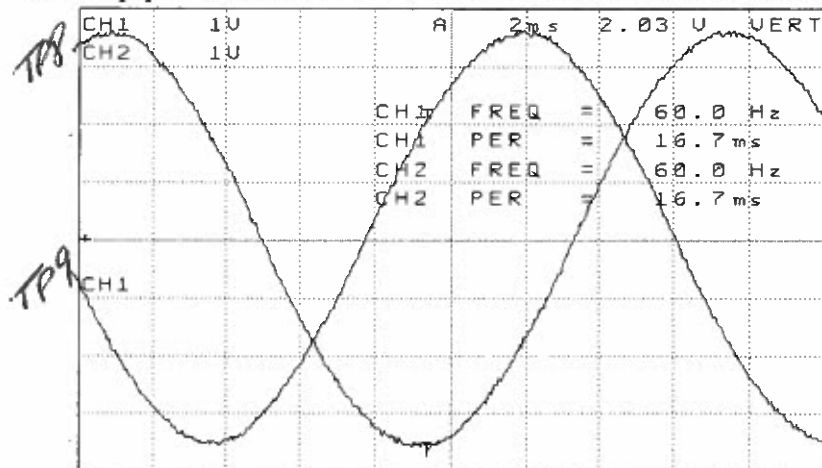

Figure 1.
- i. Attach 3 ϕ 115VAC to circuit card as follows: Line 1 to CP54, Line 2 to CP57 and Line 3 to CP60. Apply power and observe that NL1 and NL2 are illuminated. Observe TP8 and TP9 with oscilloscope and observe the following waveform (FIGURE 1). TP9 may be slightly higher; both have the same amplitude of approximately 6.8Vp-p to 6.9Vp-p. Also observe the same waveforms on JA45 and JA46.